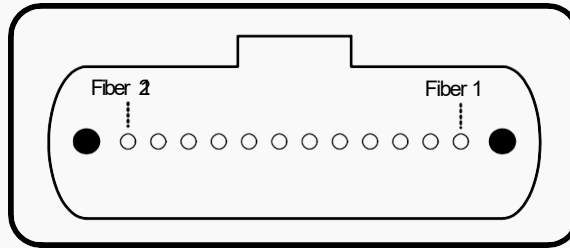

Figure 3. Outside View of the QSFP28 Module MPO Receptacle
2. VccRx, Vcc1 and VccTx are the receiving and transmission power suppliers and shall be applied concurrently. Recommended host board power supply filtering is shown in Figure 3 below. Vcc Rx, Vcc1 and Vcc Tx may be internally connected within the module in any combination. The connector pins are each rated for a maximum current of 1000mA.
Figure 3 shows the orientation of the multi-mode fiber facets of the optical connector. Table 1 provides the lane assignment.